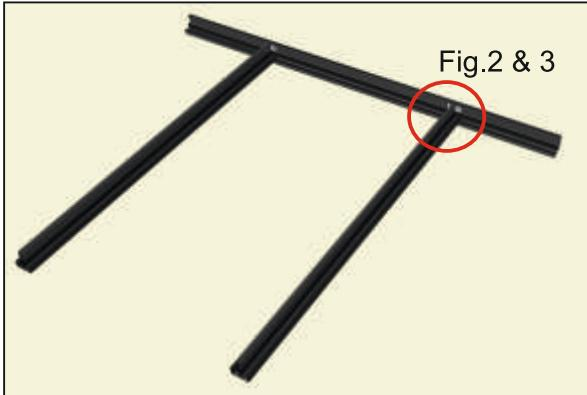
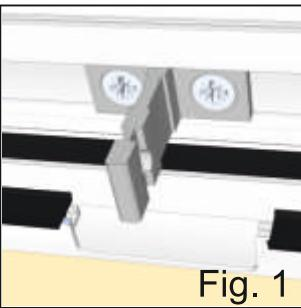

Fig.2 & 3
Fig. 1
- Assemble the first glazing bar to wall plate adaptor using the attached tee cleats (Fig.1 , Fig.2 & Fig.3).
- Insert the end trim (ABD140) to the bottom of the glazed unit. Fig.1